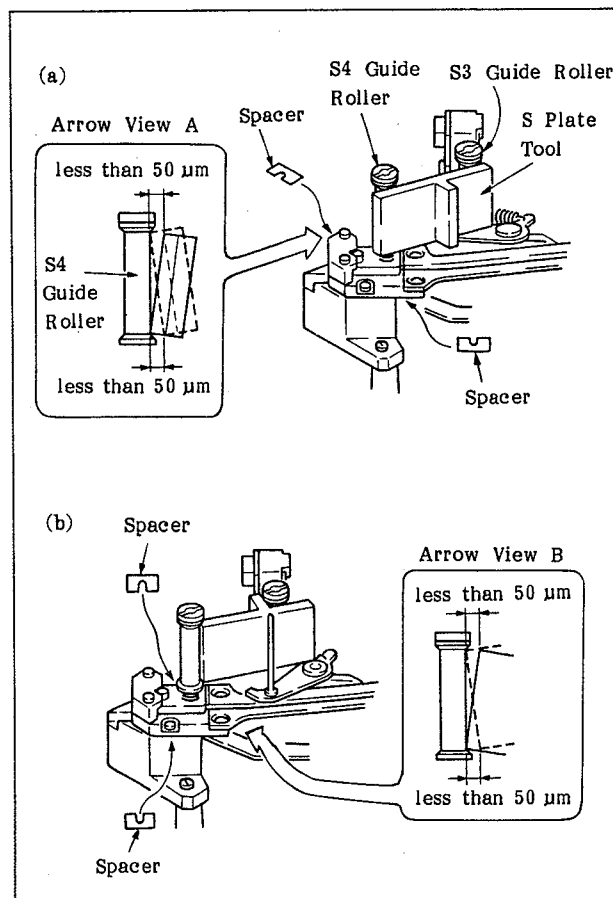

Fig. 6-51 Adjustment of the Inclination of the S4 Guide Roller
8. Push the S plate tool so that it fits tightly with the S3 guide roller as shown in Figure 6-51(a). Then, check that the clearance between the S4 guide roller and the S plate tool is less than 50  $\mu\text{m}$  in both upper and lower portions of the S4 guide roller when the S4 guide roller fits together with the S plate tool. If it is not satisfied, adjust it by inserting a spacer as shown in the figure.
9. In a similar manner, check that the clearance between the S4 guide roller and the S plate tool is less than 50  $\mu\text{m}$  when the S plate tool fits tightly with the S3 guide roller as shown in Figure 6-51 (b). If it is not satisfied, adjust it by inserting a spacer as shown in the figure.